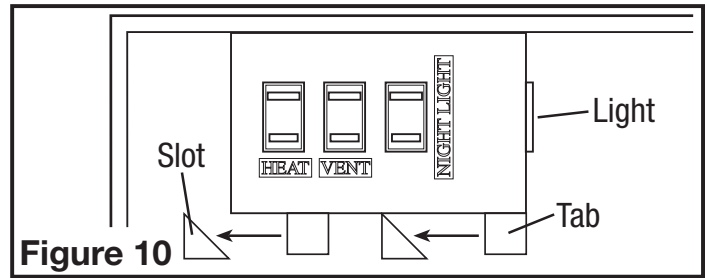

Figure 10
4. Reinstall the wire compartment cover by sliding the tabs at the bottom of the cover into the slots in the housing. Make sure all wires are tucked inside of the compartment and are not being pinched or showing through. Reinstall the two screws removed in **Step 3** of **SECTION 1** *Preparing the Unit* (**Figure 10**).